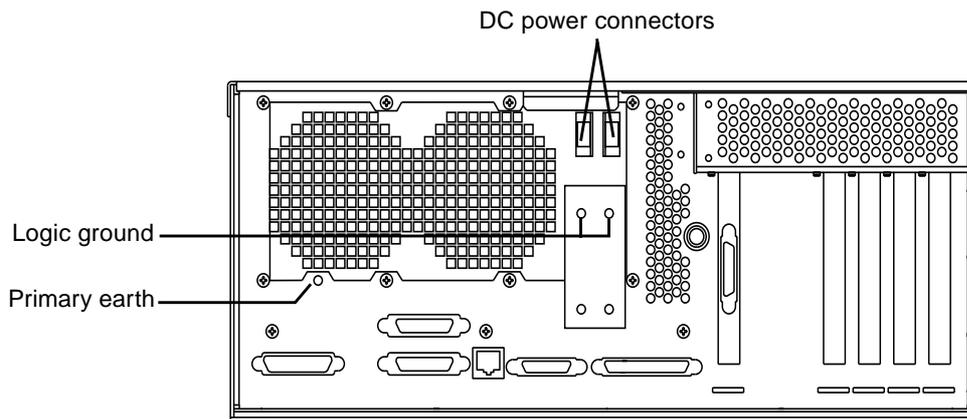

FIGURE 8-1 DC Power Connectors and Earth Points
4. If necessary, disconnect the two DC power connectors from the system (see FIGURE 8-1).